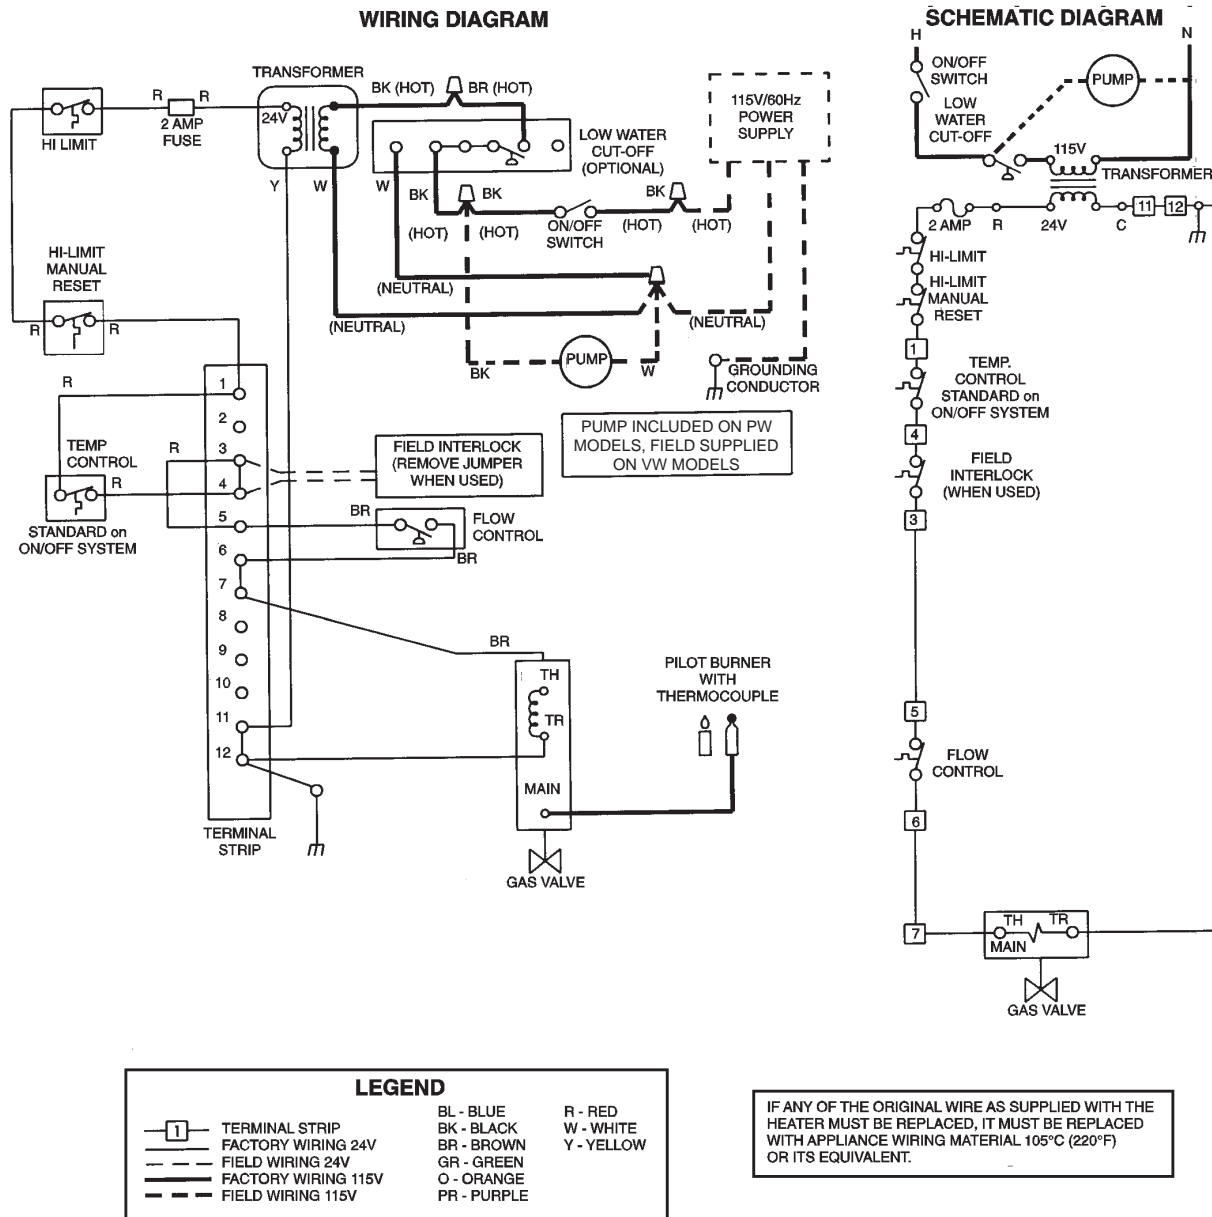

Figure 25. Typical example of wiring schematic, System 1.
- Wire the heater and pump exactly as shown in the wiring diagram supplied with the heater. See Figure 25 and 26 for a typical example of a wiring diagram.